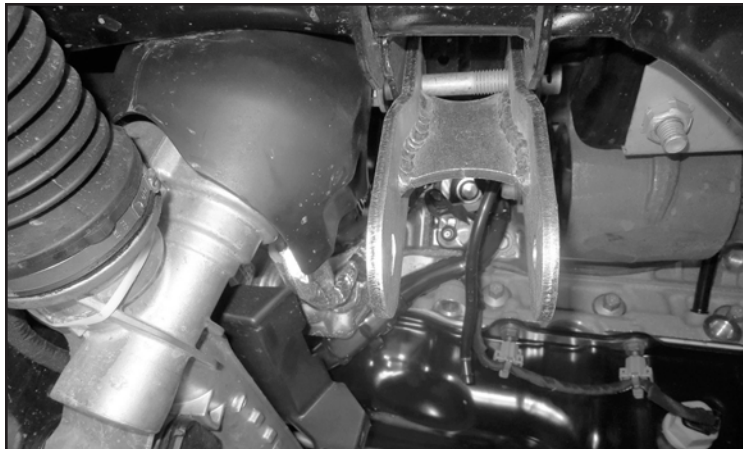

FIGURE 30 - STEP 22
22. Locate the two Fabtech upper differential mounts (FT30378). These upper differential mounts will be placed into the factory upper differential mounts using the factory upper differential mount hardware. Leave the hardware loose in preparation for the differential installation. **SEE FIGURE 30**